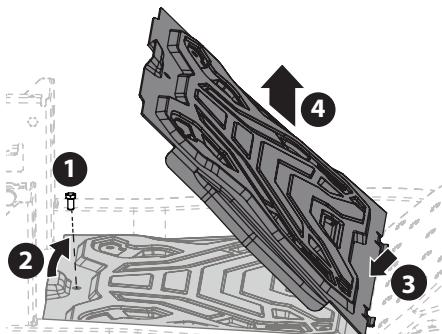

Figure 34
- Using the multi-tool (if equipped) or a 1/2 inch socket, remove the hex screw that secures the floor panel in place (1 in Figure 34).
- Carefully lift the rear of the floor panel (2 in Figure 34).
- Slide the floor panel rearward to free the front of the floor panel (3 in Figure 34).
- Lift it off the tractor (4 in Figure 34).